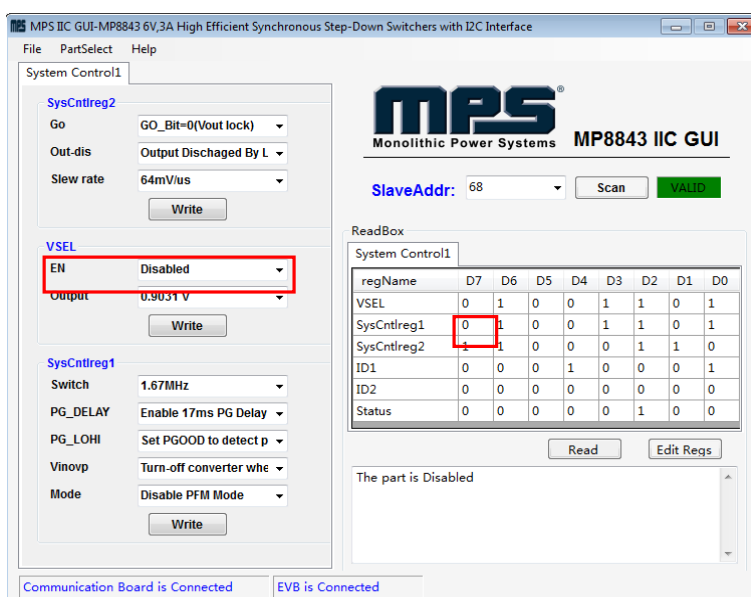

Figure 10: Refer to Datasheet to Translate 0's and 1's
- Click the Read button to update the values. The changed information of the item will appear on the right side (see Figure 10).